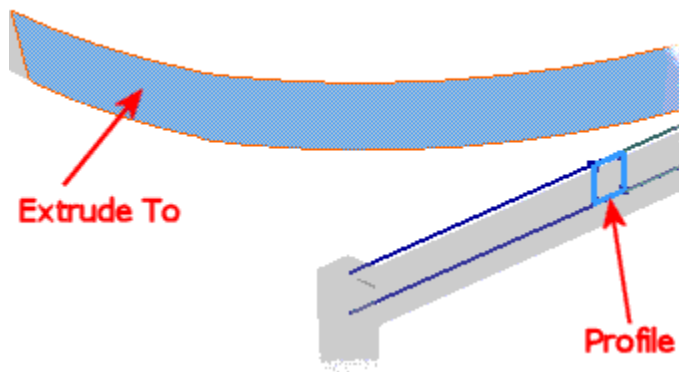

Figure 20: Extrusion profile and termination surface.
4. From the Features panel bar, click the Extrude tool. Select the profile highlighted in Figure 20.
6. Click the derived surface highlighted in Figure 20.